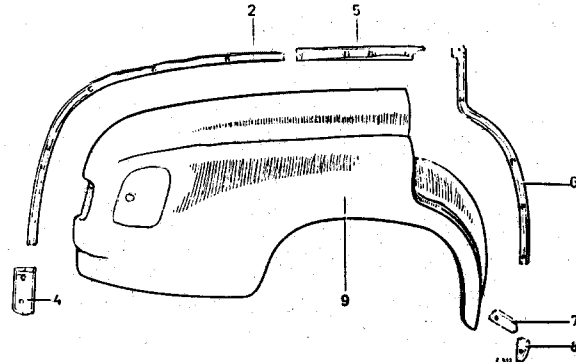

Fig. 88 — 2/3
16. Push the cables for the stop light, tail light, flash direction signal, and parking light through the conduit in the rear fender and fix them in the cable clips (3) along the wheel arch panel (see Fig. 88 — 2/2).